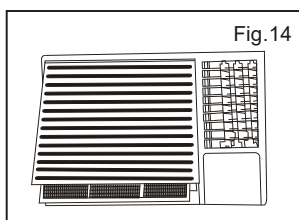

Fig.14
11. Reinstall the air filter. (Fig.14)